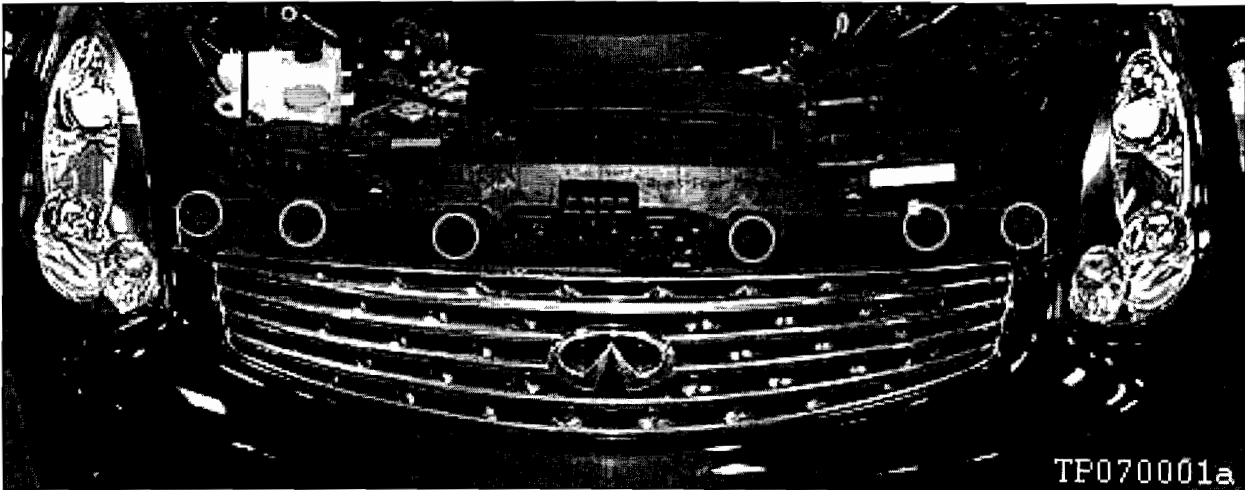

Figure 1
2. Remove the 6 grill clips shown in Figure 1.